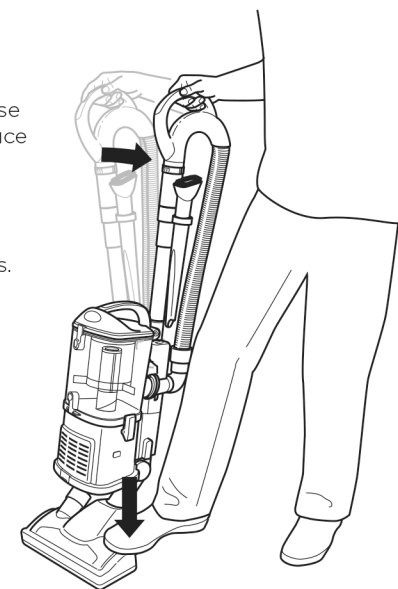

Fig. 12
- 4 To activate the brushroll, step lightly on the floor nozzle, then tilt the handle back. **(Fig. 12)**